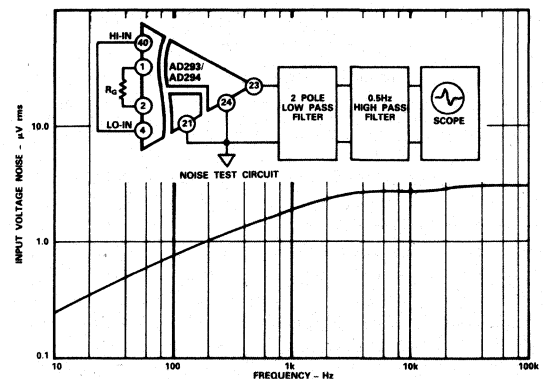

Figure 8. Typical AD293/AD294 - Input Noise vs. Frequency
**Input Voltage Noise:** Voltage noise, referred to input, is dependent on gain and bandwidth as illustrated in Figure 8. RMS voltage noise in a bandwidth from 10Hz to 100kHz is shown on the horizontal axis. The peak-to-peak value is derived by multiplying the rms value @  $F = 100Hz$  ( $0.75\mu V$  rms) by 6.6.